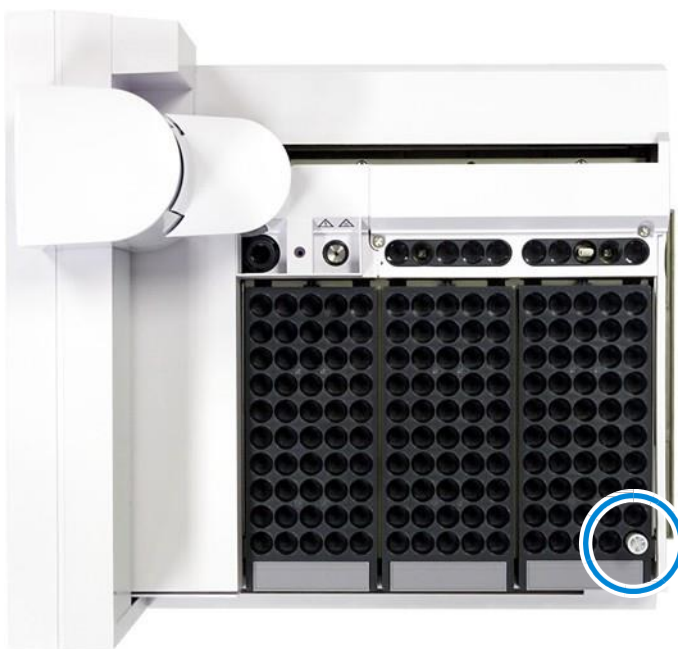

Figure 31. Tray position 1
- 1 Place the calibration vial (G4514-40588) in tray position 1 (Figure 31).